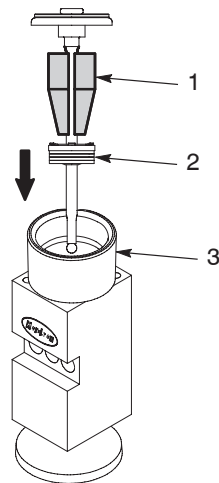

Figure 9-16 Using the seal tool to install the retaining ring, seal support disk, and hat seals
2. See Figure 9-16. Lubricate the seal portion of a new needle-and-piston assembly with neat's foot oil.
5. See Figure 9-16. Position the piston insertion tool (3) on top of the module body.
6. Slide the needle-and-piston assembly components through the piston insertion tool into the module body. By pressing down on the center of the piston, use the seal tool (1) to compress the retaining ring, seal support disk, and hat seals (2) until the tangs on the retaining ring snap into place.